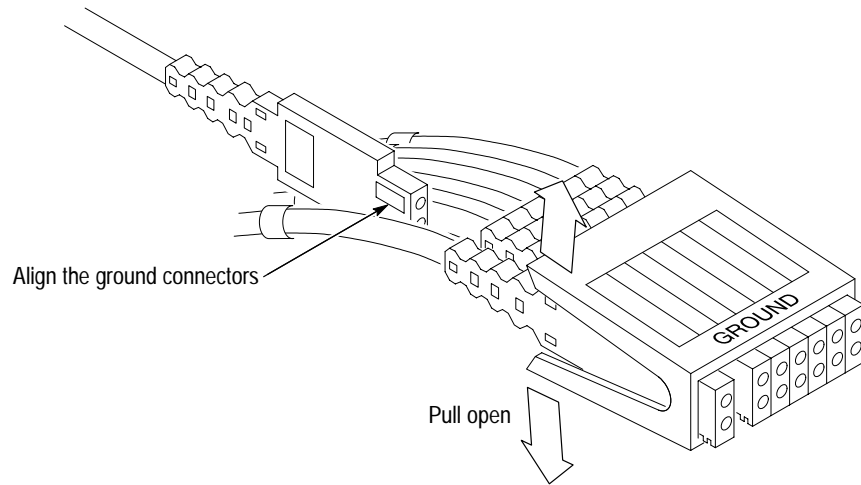

Figure 13: Replacing a podlet in the podlet holder
14. Remove the faulty podlet cable from the podlet holder and replace it with the new cable as shown in Figure 13.